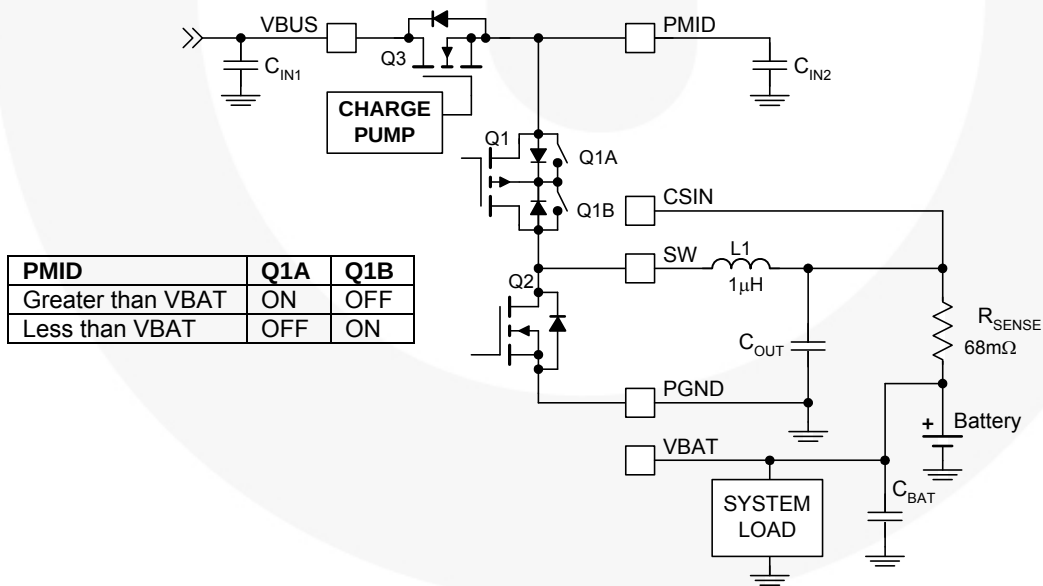

Figure 3. Power Stage
2. 6.3V rating is sufficient for CMID since PMID is protected from over-voltage surges on VBUS by Q3 (Figure 3).